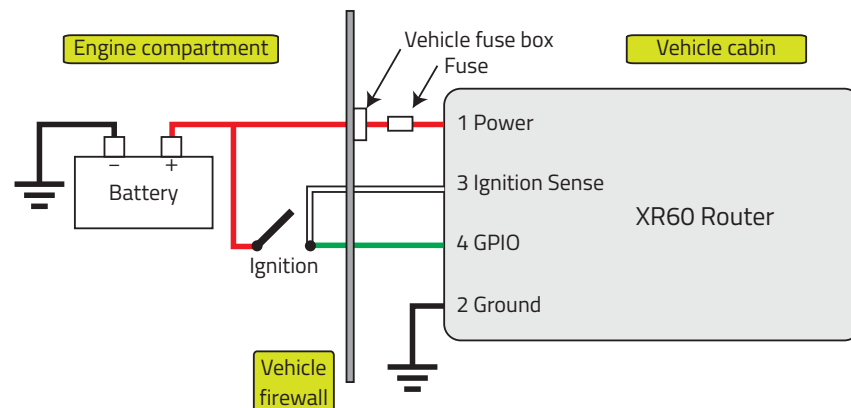

Figure 2-7: Vehicle Installation Wiring Diagram—Timer-driven Activation
- The vehicle ignition must be connected to the router's I/O pin (see Figure 2-7).